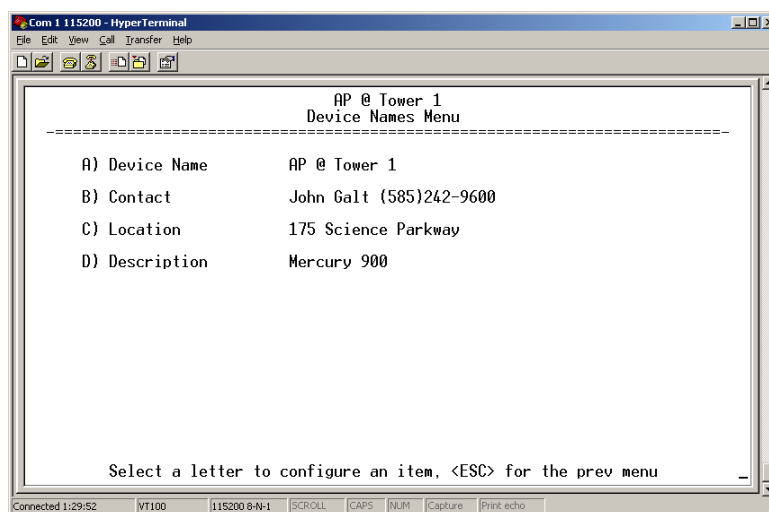

Figure 3-82. Device Names Menu
- **Device Names**—Fields used at user’s discretion for general administrative purposes. The Device Name field is shown on all menu screen headings. (See Figure 3-82 on Page 112)